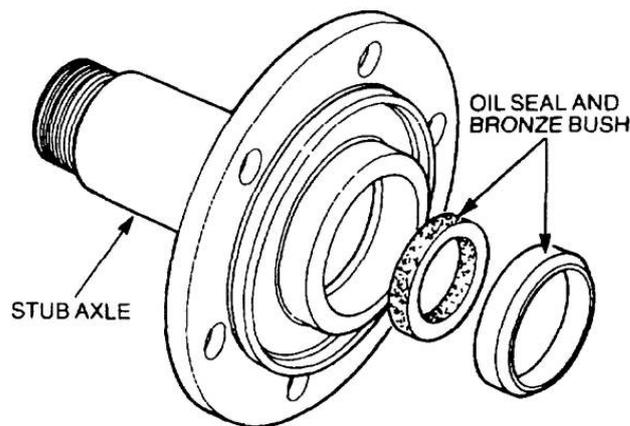

Figure 273 Removal of the Stub Axle Oil Seal
- b. Using special tool 18GA284AAH and 18G284, remove the oil seal and bronze bush from the stub axle (Figure 273).